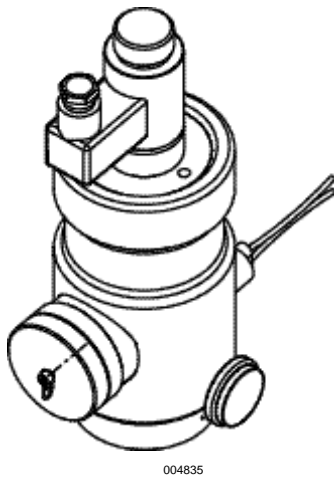

Figure 37 - Electrical Actuator Location
- Carefully screw the actuator to the valve assembly (see Figure 37).